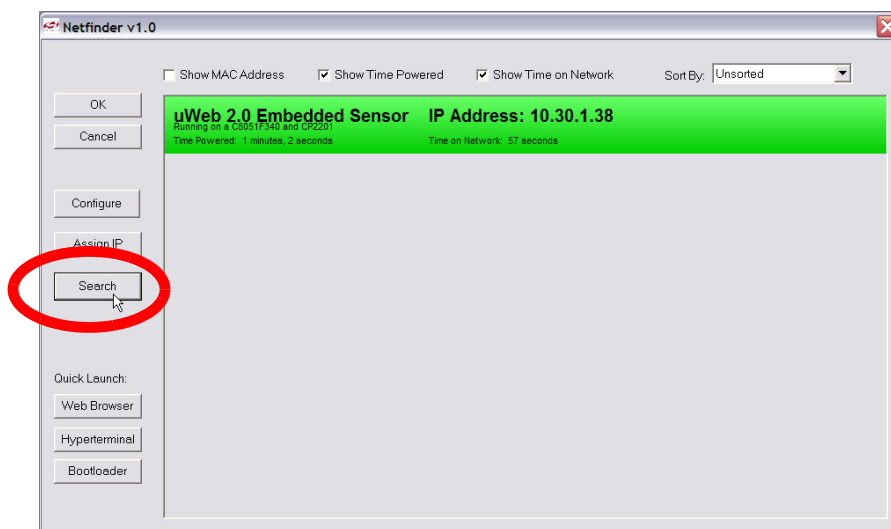

Figure 2. Search Button
1. Press the **Search** button as shown in Figure 2 to begin searching for devices.